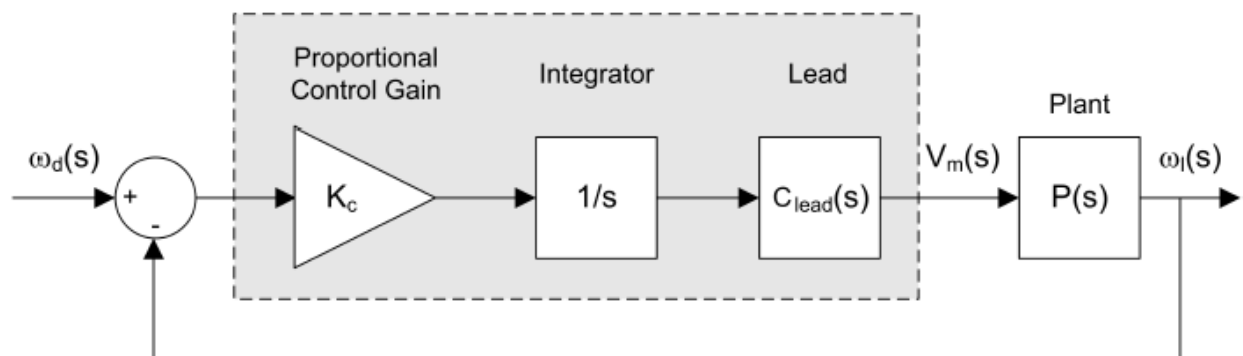
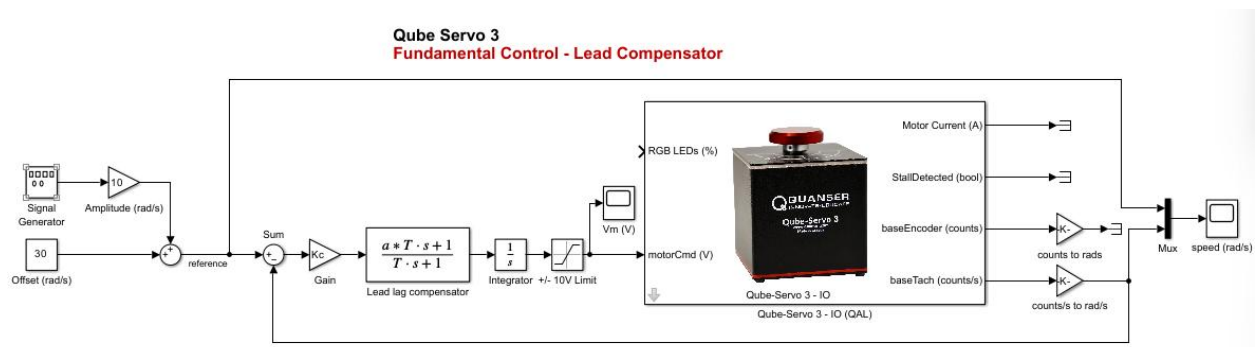

Figure 1: Lead compensator with integrator
Figure 2: Simulink implementation of lead compensator for Qube-Servo 3.
The classic lead compensator given above may not achieve zero steady-state error. To ensure we have zero steady-state error, it is necessary to include an integrator in the controller and so we will use a controller of the form of Figure 1:
The Simulink model shown in Figure 2 implements the lead compensator designed in the previous section for testing on the physical Qube-Servo 3. You will observe that Figure 2 implements the scheme shown in Figure 1.
16. Open the qs3_lead.slx Simulink model, design the Simulink model to be like Figure 2 by inserting and connecting the relevant blocks as in Figure 2.
20. Take a screenshot of **Speed (rad/s)** and **Vm (V)** scopes. A sample response using $K_c = 1$ is shown in 3 below: